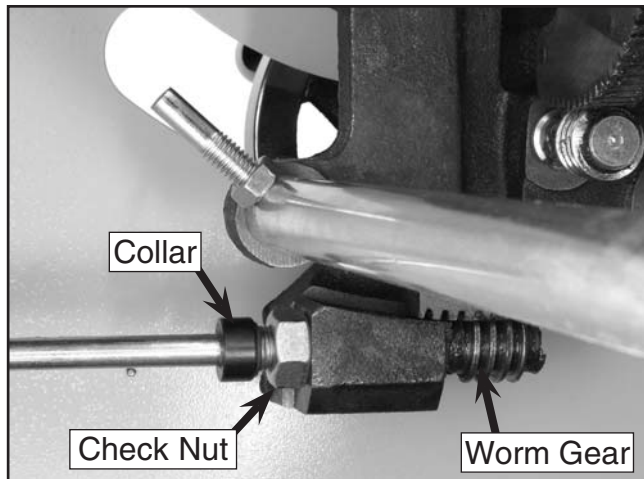

Figure 69. Blade tilt worm gear assembly.
3. Loosen the collar setscrew and slide the collar away from the check nut (**Figure 69**).
4. Loosen the check nut and thread it completely off of the threaded bushing (**Figure 69**).